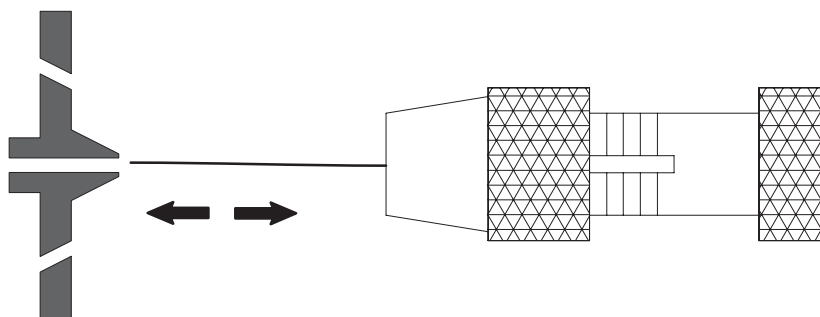

Figure 9-26 Correct direction to insert a pin-type probe into a nozzle (CF nozzle disk shown)
4. If cleaning of the nozzle orifices is necessary, use a pin-type probe that is one size smaller than the orifice size: insert the probe in the direction opposite the adhesive flow and then remove the probe without twisting it, as shown in Figure 9-26.